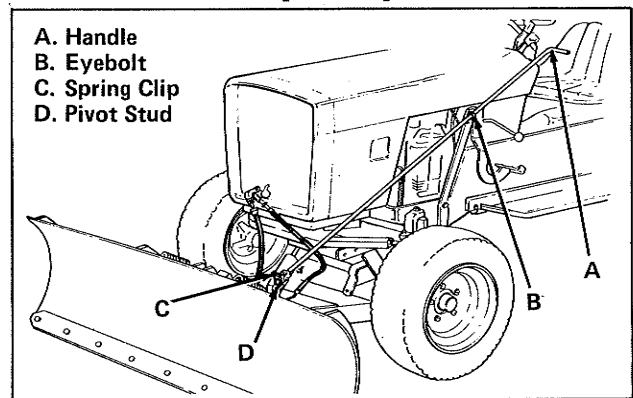

Figure 6. Install Control Rod
9. Insert handle (item A, figure 6) of control rod through eyebolt (item B). Slip fork at other end of control rod over pivot stud (item D). Then install spring clip (item C) into hole at top of pivot stud.
3. Remove spring clip (item C, figure 6) and remove control rod from pivot stud (item D) and eyebolt (item B). Store spring clip in hole of pivot stud.